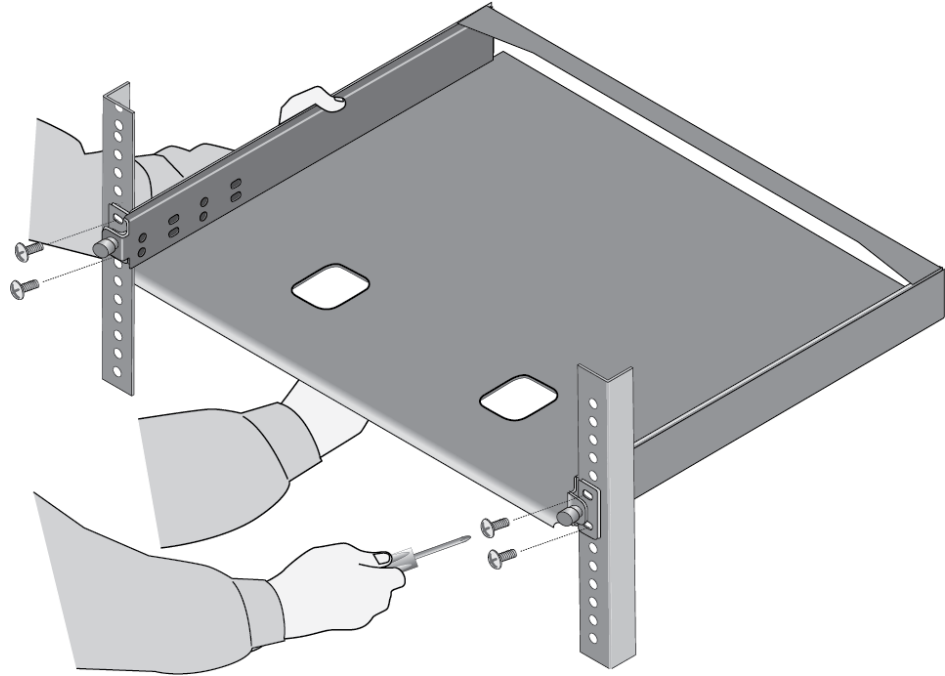

Figure 43. Installing the RKMT-J15 Bracket in the Equipment Rack
1. Have another person hold the RKMT-J15 Bracket at the desired location in the equipment rack while you secure it using four standard equipment rack screws (not provided). Refer to Figure 43 on page 82.